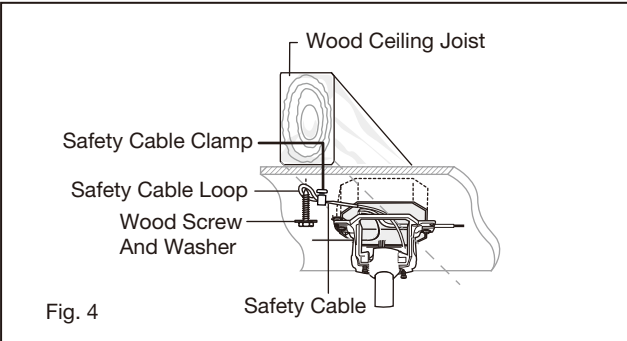

Fig. 4
NOTE: The tab opposite hanger bracket opening should fit in slot on ball. (Fig. 4)
- 2 Connect the black lead wires from the switch in the cradle A to the black wires in the switch box. Hot input wire to one of the cradle switch leads. Power lead to the fan is connected to the remaining switch lead. (Fig. 4)